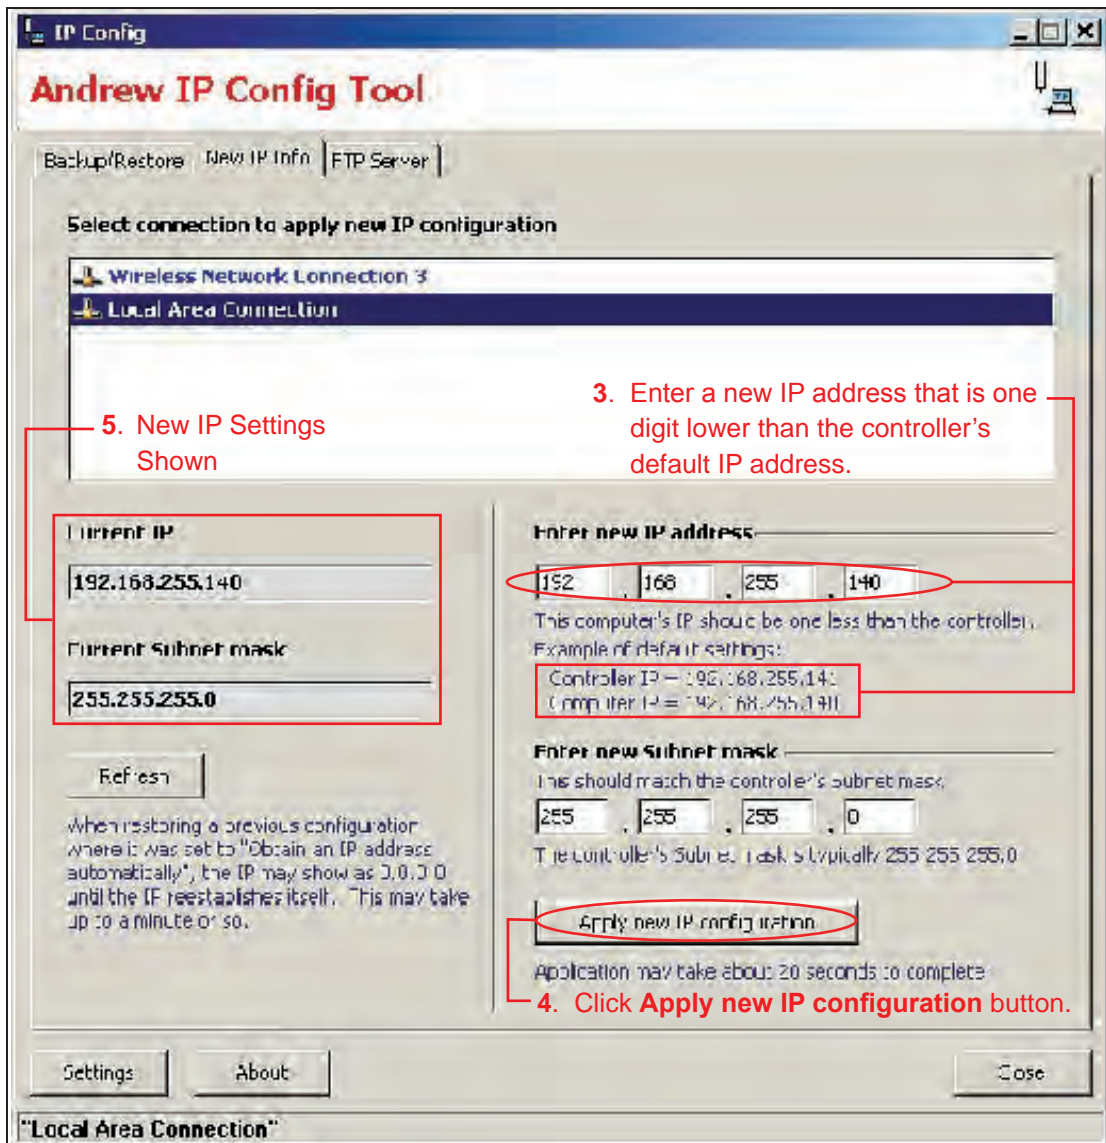

Figure 3-5. New IP Address For Local Computer Shown As Current IP.
3. In the fields provided, enter a new IP address that matches the controller's IP address with the final digit one digit lower (Example: Controller Factory Set IP is 192.168.255.141; New Computer IP is 192.168.255.140). See Figure 3-5.
4. Click on the **Apply new IP configuration** button (Figure 3-5).
5. When the IP configuration is complete, the new IP address will appear as the **Current IP** (Figure 3-5).